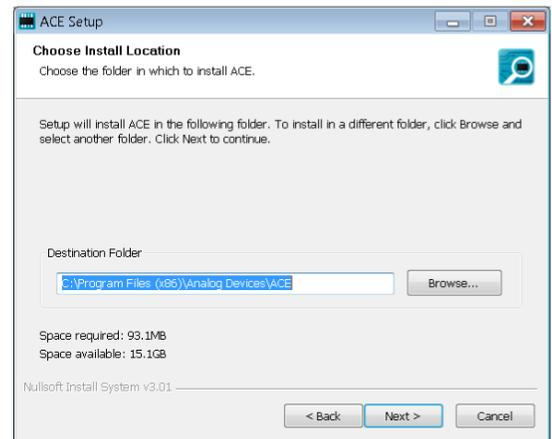

Figure 11. Choose Install Location
6. Choose an installation location and click **Next** (see Figure 11).